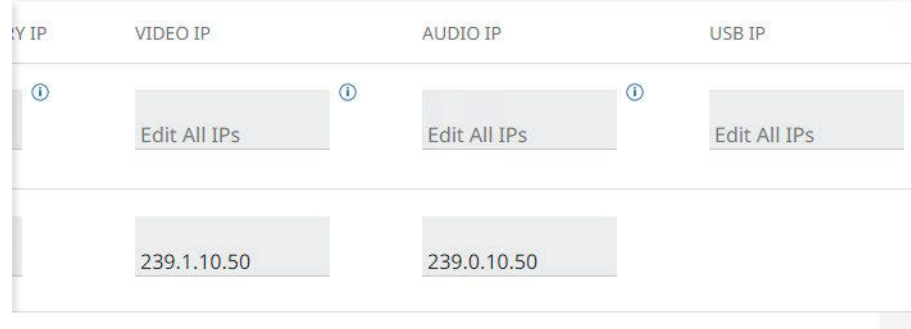

Figure 44. Revealed Fields
- Drag the scroll bar (A) as necessary to reveal fields on the right side of the screen. The right side of the **Stream** tab is revealed (see figure 44).